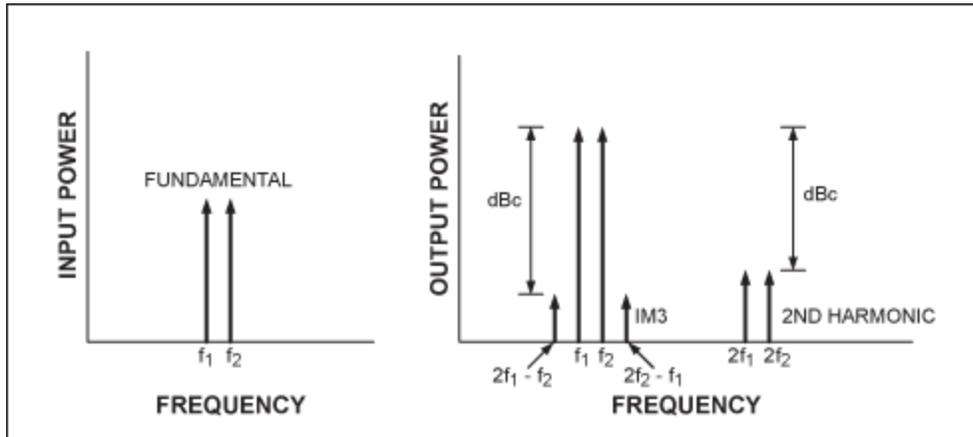

Figure 3. Two-tone IP3 test (Left). Two input tones at the input (Right). The output contains the two amplified tones, IM3 products, and harmonic distortions.
**Third-Order Intercept Point (IP3)** is a figure-of-merit for linearity or distortion. Higher IP3 means better linearity and less distortion. IP3 is commonly tested with two input tones. **Figure 3** illustrates the two-tone IP3 test in the frequency domain. The inputs to the amplifier are two sinewaves (fundamental), one at 900MHz and the other at 901MHz in the example shown here. At the output of the amplifier are the two desired signals. Because the amplifier is not perfectly linear, it also produces two third-order intermodulation (IM3) products. IM3 is often given in dBm. The IM3 distortion products are shown here very close in frequency to the desired signals and they cannot be removed easily by filtering. To reduce
**Harmonic Distortion** is another distortion specification. It specifies the distortion products created at integer multiples of the fundamental frequency (Figure 3). For example, a second harmonic distortion specified as -60dBc means the distortion output amplitude at twice the fundamental frequency is 60dB below the fundamental. Thus dBc is the number of dB below the fundamental (dBc traditionally means dB below the carrier). The harmonic distortion specification is critical in broadband applications such as cable TV, but less important in narrowband applications such as handsets because the distortion products can be easily filtered out, since they are separated by a large frequency difference.